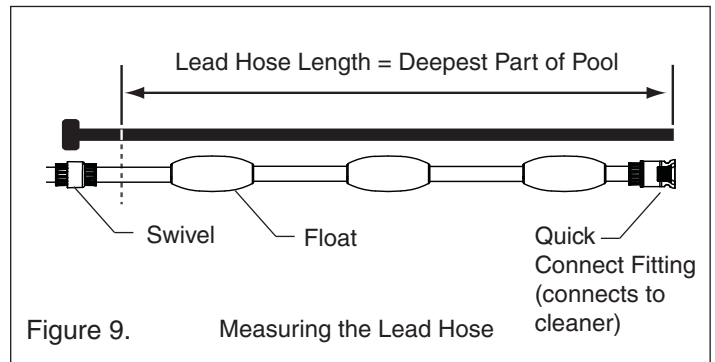

Figure 9.
2. If the pool depth is less than 10 ft., disconnect the soft light grey lead hose, labeled section one, from the swivel end. Cut the lead hose so the length is equal to the deepest part of the pool. **See figure 9.**